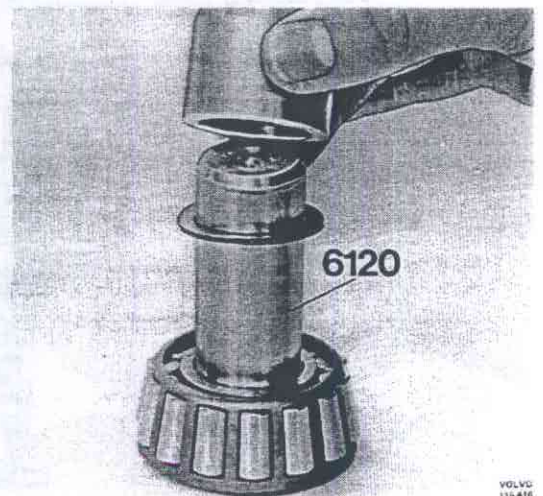

Fig. 43-170. Fitting spacer sleeve
6. Place 6120 on a flat base and fit on the large bearing, Fig. 43-170. Fit the requisite number of shims according to point 5 and the spacer sleeve.